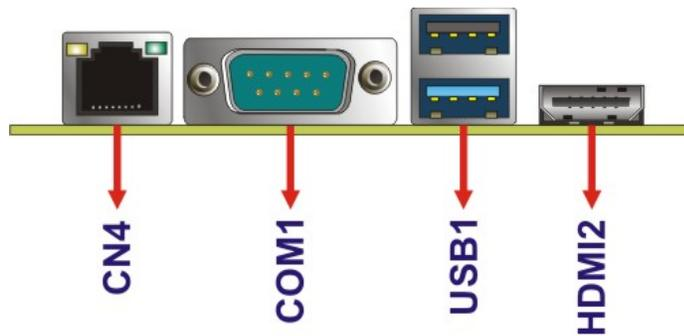

Figure 3-17: External Peripheral Interface Connector
Figure 3-17 shows the HYPER-RK39 external peripheral interface connector (EPIC) panel. The EPIC panel consists of the following:
CN Location: See Figure 3-17
- CN Location:** See **Figure 3-17**
CN Location:	See Figure 3-17